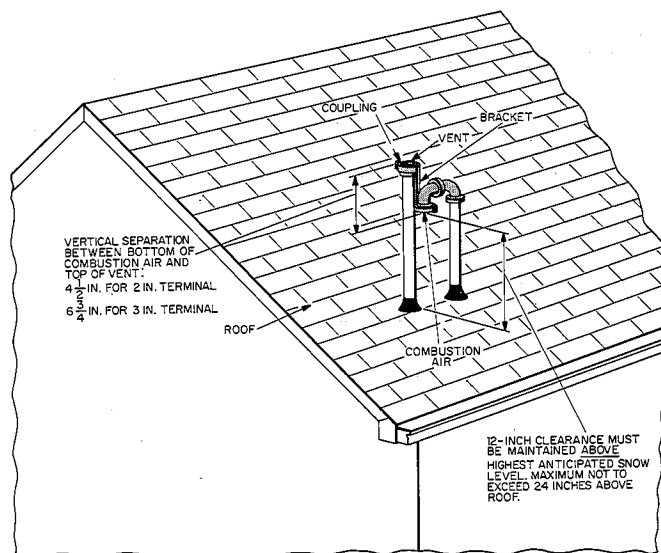

Fig. 3—Rooftop Termination
- f. For applications using combustion-air pipe option as shown in Fig. 3, install 90-degree street ell into 90-degree elbow, making a U-fitting.